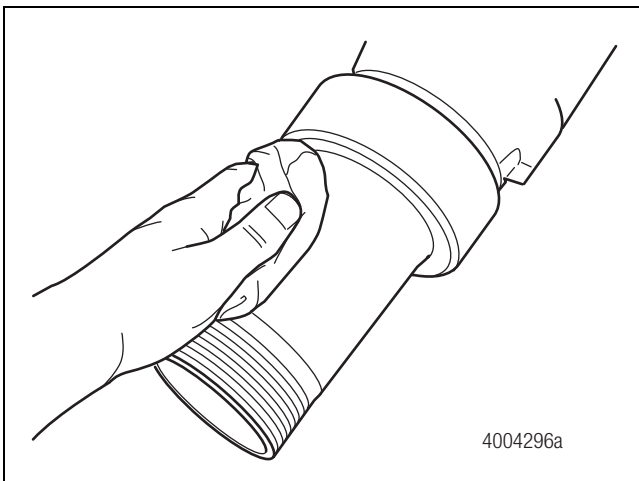
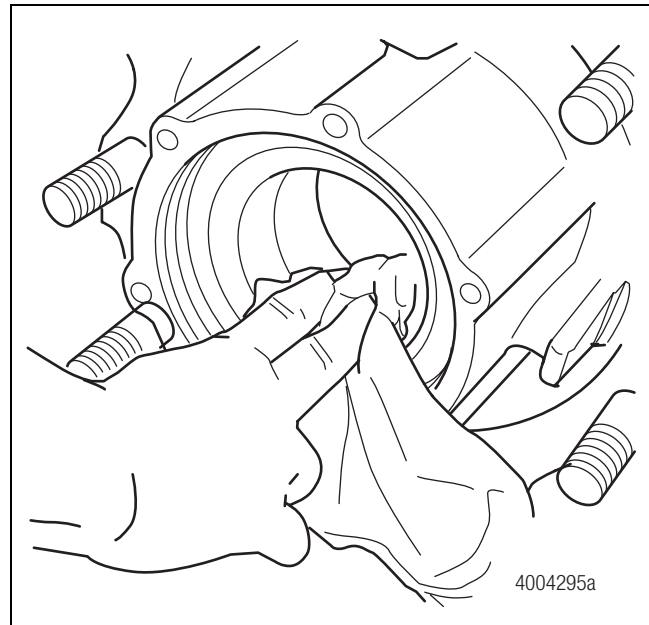

Figure 4.31
Figure 4.32
1. Clean the axle spindle and hub bore by wiping them with a clean rag. Figure 4.31 and Figure 4.32.